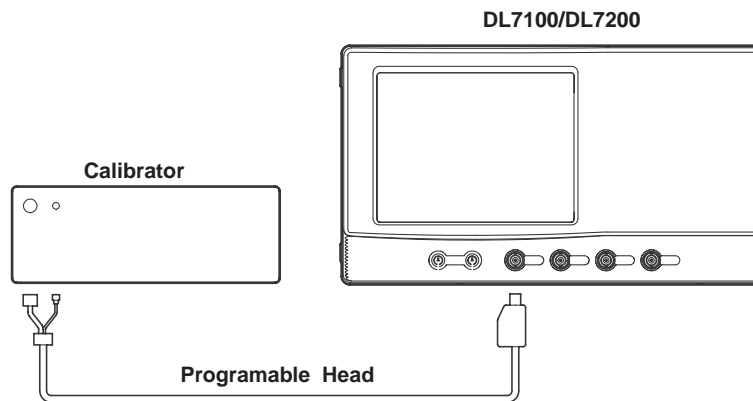

Figure 3.5 Connection Method
- 3) Connect each instrument as shown in figure 3.5, "Connection Method."